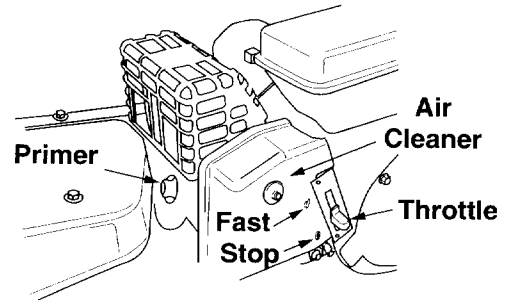

Figure 16
The throttle control lever is located on the engine. It controls the engine speed and stops the engine. See Figure 16.
The primer button is located behind the air cleaner. It is used to enrich the fuel mixture in the carburetor when starting a cold engine. See Figure 16.
3. Push primer two (2) or three (3) times (see Figure 16). Wait about two (2) seconds between each push.